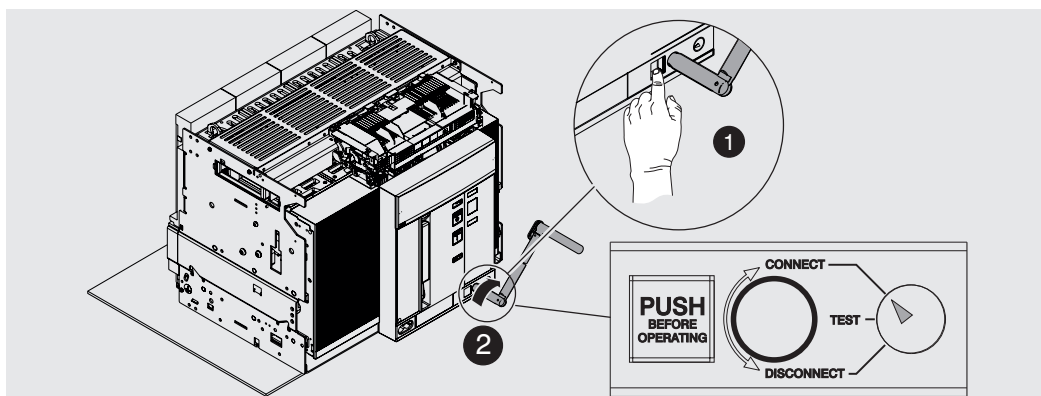

Figure 46
11. Press the lock button and rotate the crank clockwise until it comes out and the indicator shows that the circuit-breaker is in **CONNECT** position. See Figure 46.